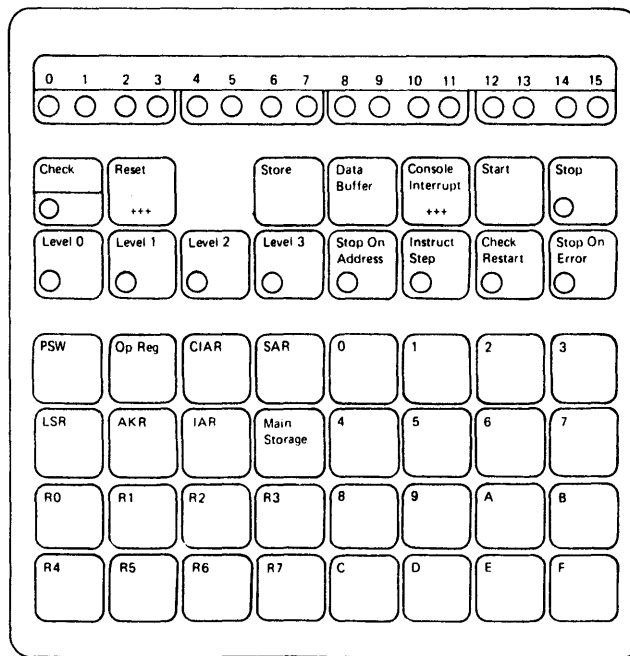

Figure 2-2. Programmer console
This feature is intended for operator-oriented systems where programs are being tested or where various programs will be entered and executed during the day. This type of environment requires a more versatile console to (1) determine program and machine problems, and (2) manually alter data and programs in storage. The following indicators and controls are provided: Check and Data Display indicators; Level, Stop, Stop on Address, Instruction Step, Check Restart, and Stop on Error key/indicators; Reset, Storage, Data Buffer, Console Interrupt, and Start keys (see Figure 2-2).